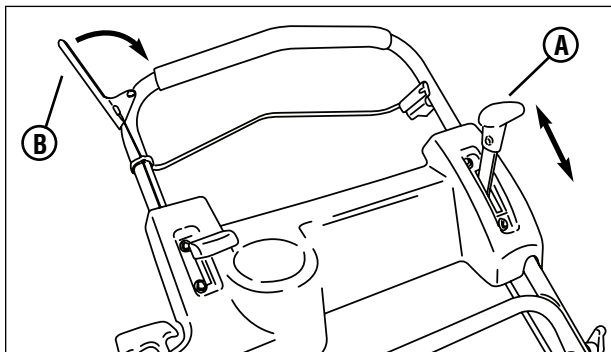

Figure 5: Mower drive controls
2. Move the ground speed control (**A**, **Figure 5**) to the desired speed position.